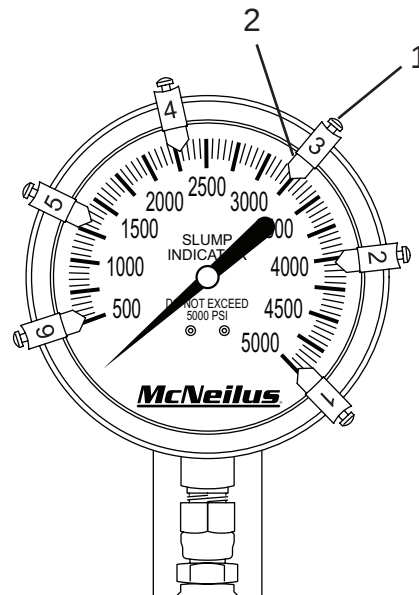

Figure 47
4. Loosen the locking screw (Figure 47, Item 1), and move the 3" indicator (Figure 47, Item 2) to match the tip of the indicator needle. Tighten the locking screw.